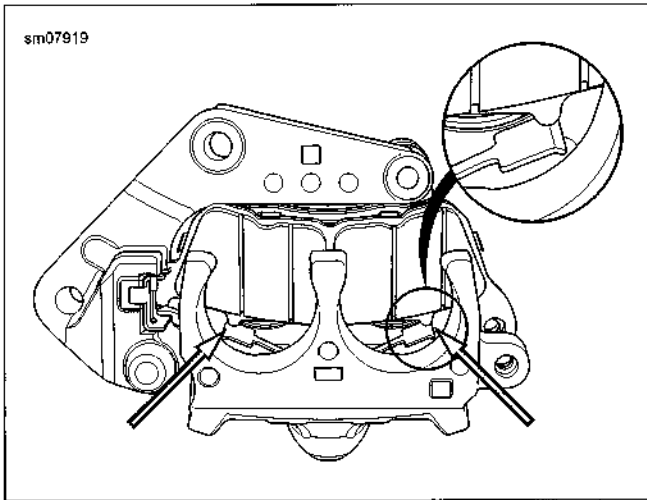

Figure 1-35. Pad Spring Feet
- c. See Figure 1-35. Align pad spring feet against pad spring.